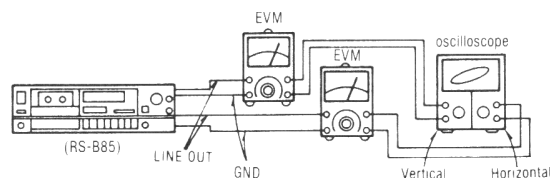

Fig. 7
- Make connections as shown in fig. 7.